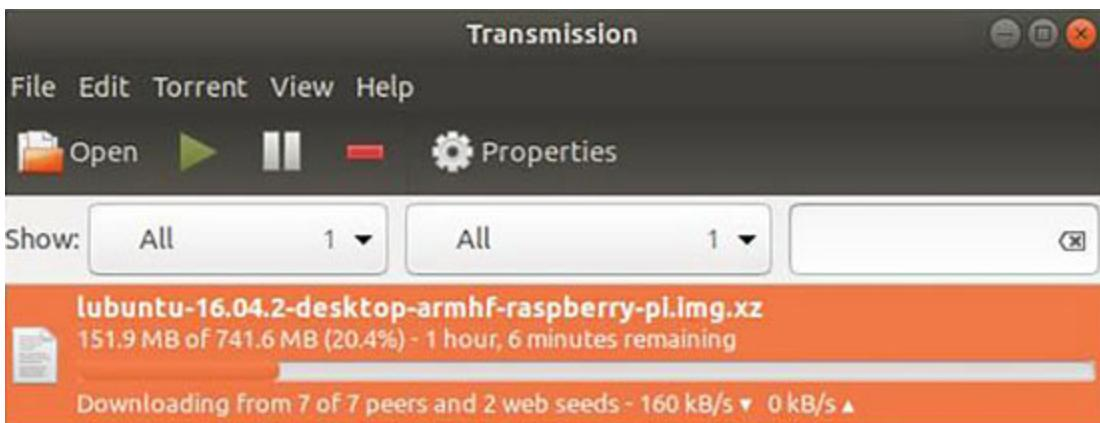

Figure 1.3: The Transmission control screen
5. In **Transmission**, highlight the file, set the destination (which can be the same as the **Downloads** folder) and press the green play button to start downloading. See the following *figure 1.3*.